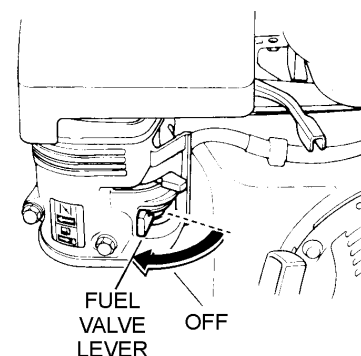

Figure 15. Fuel Valve Lever (OFF)
- Place the fuel shut-off lever (Figure 15) in the **OFF** position.